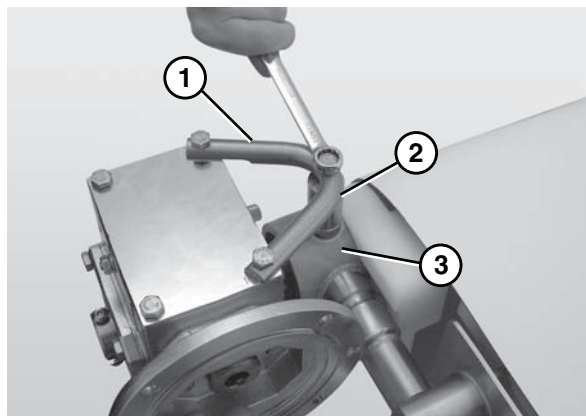

Figure 7
3. Attach the upper gearhead mounting bar (Figure 7, item 1) and the horizontal drive spacer (Figure 7, item 2) to the motor mounting bracket (Figure 7, item 3).